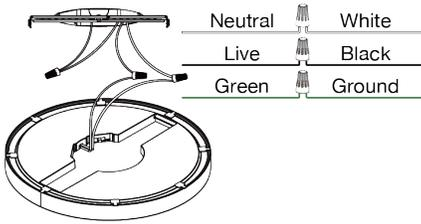

Fig. 4
4. Use wire connectors to connect the wires according to the wiring diagram. (Fig. 4)